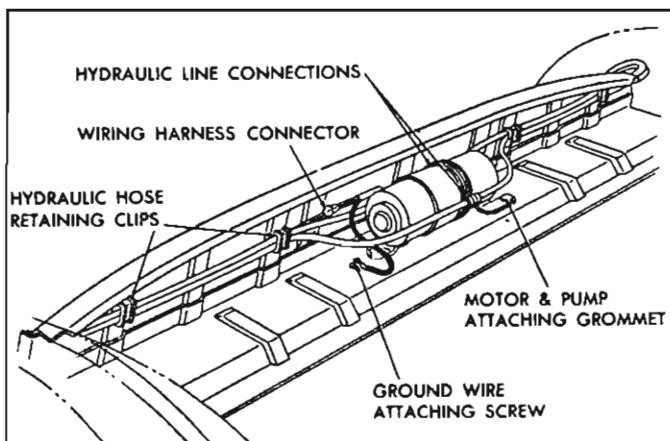

Fig. 66—Hydro-Lectric Motor and Pump Assembly
The high pressure hydro-lectric unit used in the convertible bodies, consists of a 12 volt reversible type motor, a rotor-type pump, two hydraulic lift cylinders, and an upper and lower hydraulic hose assembly. The unit is installed in the body directly behind rear seat back (fig. 66).
5. Remove clips securing wire harness and hydraulic hose to rear seat back panel (fig. 66).
- a. Check connection of motor ground wire to body metal (fig. 66).